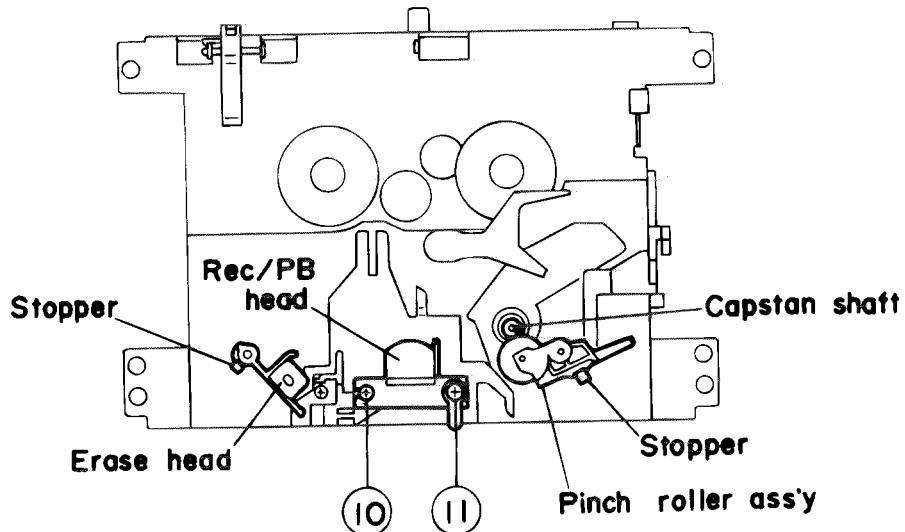
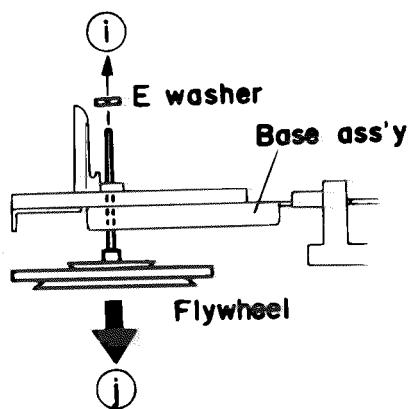

Fig.2-13
Fig.2-16
■ Pinch roller assembly (Fig.2-13 to 2-14)
■ Rec /PB head and erase head (Fig.2-13 to 2-15)
1. Remove two screws ⑩, ⑪ retaining the Rec/PB head.
■ Flywheel assembly (Fig.2-16)